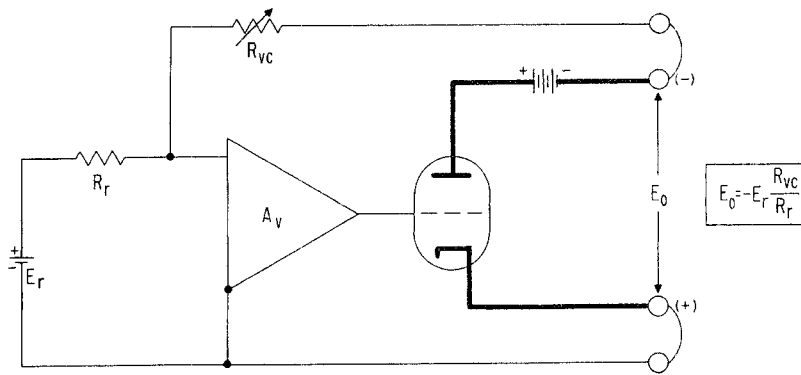

FIG. 3-1 VOLTAGE CONTROL CIRCUIT, OPERATIONAL NOTATION.
- 1) Without changing the physical layout of any component in FIG. 3-3, the voltage comparison amplifier and control circuitry can be redrawn to illustrate a useful analogy between a power supply and a d-c feedback "operational" amplifier. (See FIG. 3-1).